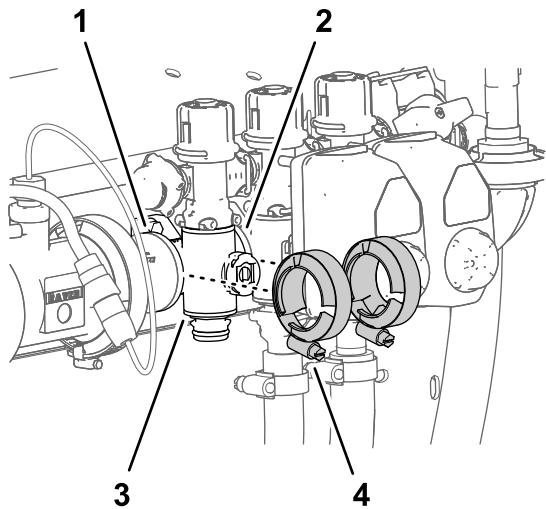

Figure 121
4. Loosely assemble the flange clamps that you removed in Removing the Section-Manifold Valve \(page 79\) to the flanges of the section-valve manifold and the flanges of the other section-valve (s) and/or coupling adapter (Figure 121).
7. Tighten the 2 flange clamps by hand (Figure 121).